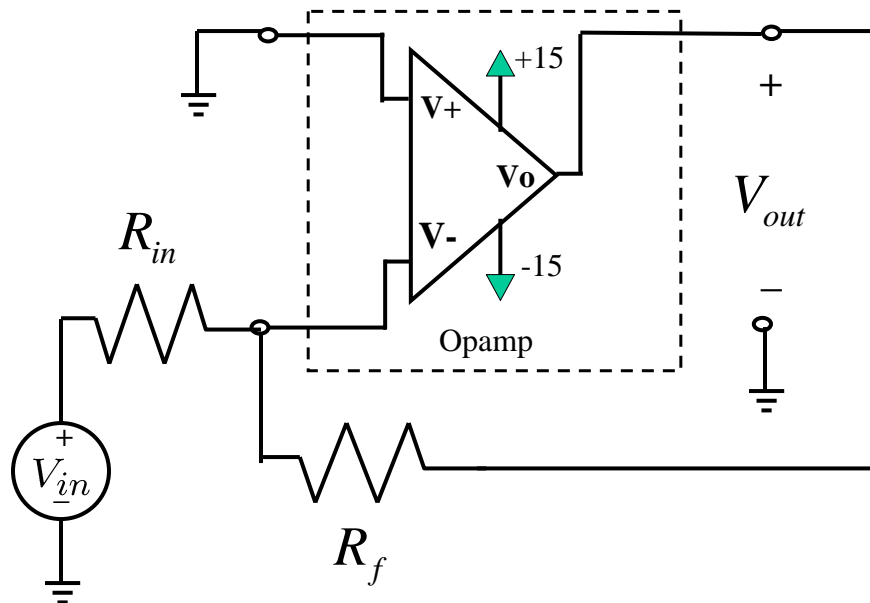

Figure 2: Inverting amplifier.
**Question 7:** Use the software to solve the inverting amplifier circuit in figure 2 using  $R_{in} = 10,000$ ,  $R_f = 100,000$ , and the op-amp gain equal to  $K = 1000$  (which is the default value in the code).
voltage of an op-amp cannot exceed the range of voltages provided to it. Note that in figure 2 we show that the op-amp is connected to a two-sided power supply, providing both +15V and -15V. The output of the op-amp is limited to being in the range of the supply voltages. If we connect the op-amp to +15V and 0V (ground), then the output must be in that range (only positive voltages).
**Question 10:** Use the software to solve (again) the inverting amplifier circuit in figure 2 using  $R_{in} = 10,000$ ,  $R_f = 100,000$ , and the op-amp gain equal to  $K = 1000$  (which is the default value in the code). Try  $V_{in} = 2$  and contrast what happens when you specify the supply voltages and when you don't.